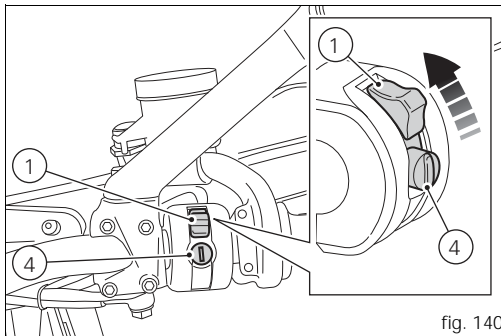

fig. 140
Move the red switch (1) up to uncover the black button (4, fig. 140).
The engine will shut off by turning the red key (1, fig. 140) on the handlebar to RUN OFF.